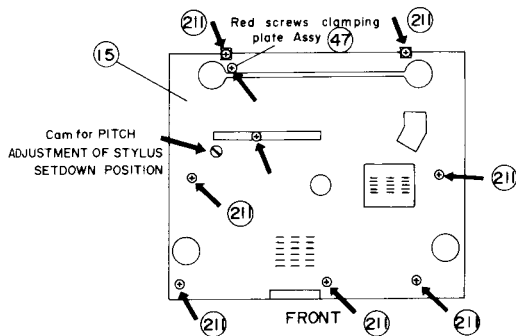

Figure 3
(2) Place the unit upside down on a suitable bench. Remove seven screws "21" which mount the Cabinet bottom "15" as shown in Figure 3.